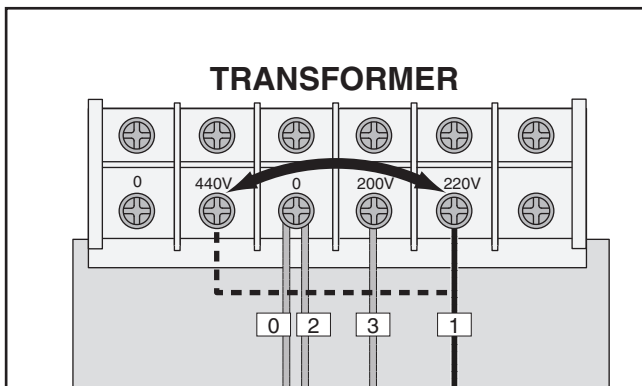

Figure 7. The "1" wire should be connected to the 440V terminal.
3. Remove the wire labeled "1" at the 220V terminal of the control power transformer (**Figure 7**) and connect it to the 440V terminal.